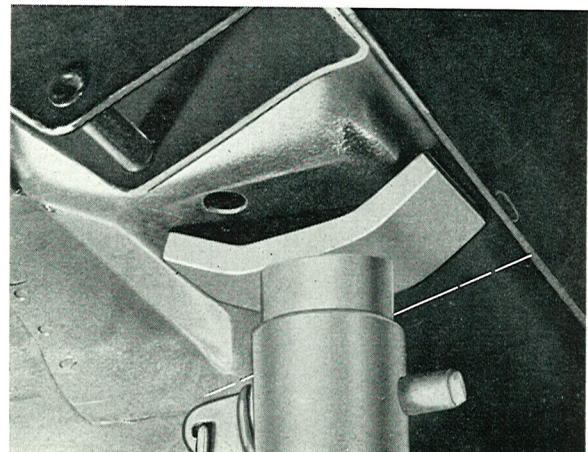

Fig. 7-4. Location of the block stand for jacking up the vehicle rear end
1. Remove the hub cap and loosen the wheel nuts a couple of turns. Jack up the vehicle. Place blocks in front of the rear jack attachments according to Fig. 7-4. Remove the wheel.
1. Remove the hub cap. Slacken the wheel nuts a couple turns. Jack up the rear end of the vehicle at the jack attachments. Place blocks in front of the jack attachments according to Fig. 7-4. Remove the wheel. Unscrew and remove the shock absorber.
1. Raise the vehicle by placing blocks in front of the rear jack attachments according to Fig. 7-4. Do not remove the jack.
1. Raise the rear end of the vehicle by placing blocks in front of the rear shock absorber attachments according to Fig. 7-4.